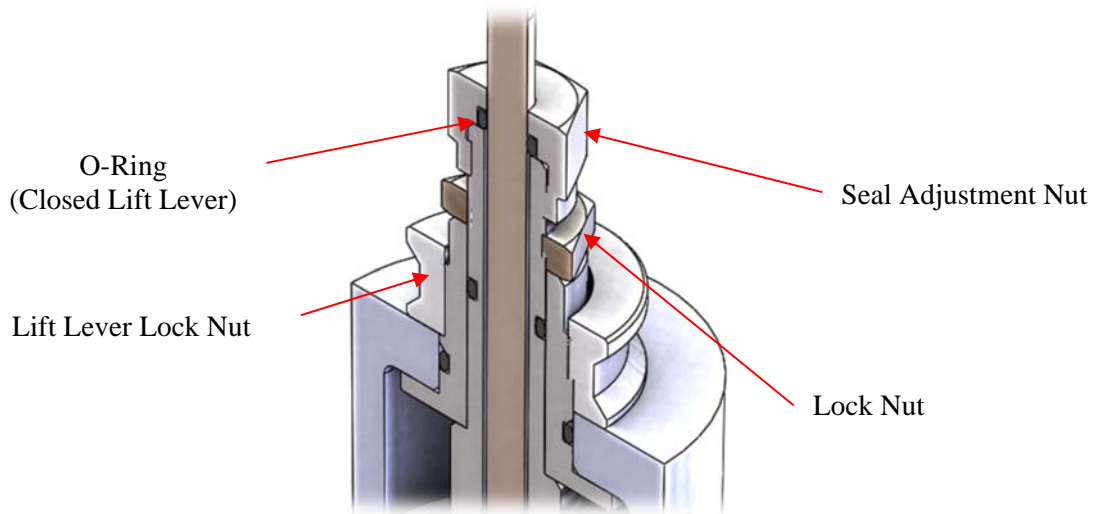

Figure 20: Removed Lift Lever Cap
6. Unscrew and remove the seal adjustment nut. See Figure 20.